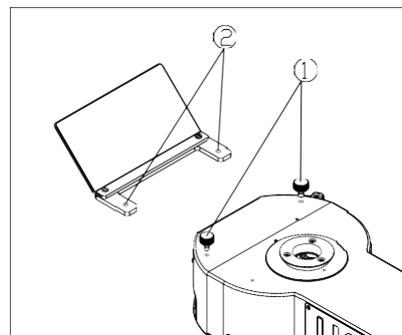

Fig.6
(1) Take off the lock-screw ① on fluorescence illuminator. (See Fig. 6)
(2) Match the hole ② on blinkers board to the hole on lock-screw ① and lock the screw.